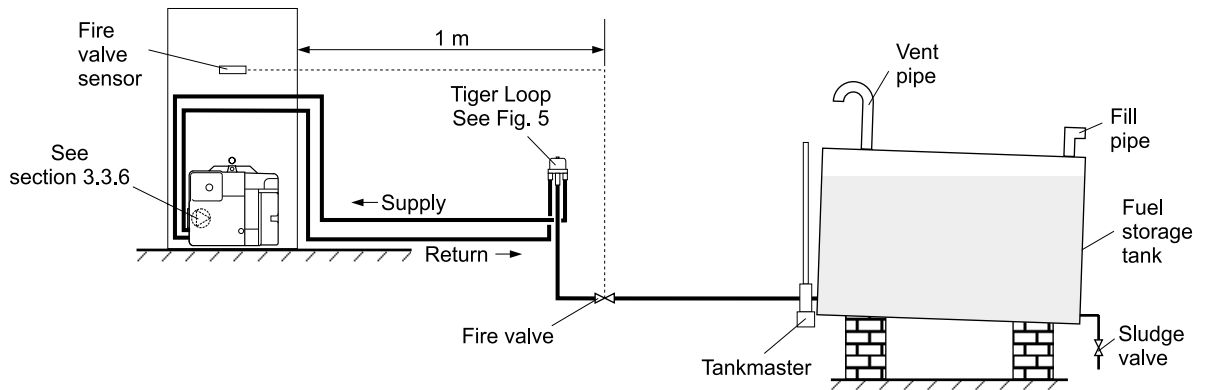

Fig. 4 - Tiger loop system
#### 3.3.5 Tiger Loop system - (See Figs. 4, 5)
- 2 The Tiger Loop is connected close to the boiler as a two pipe system (omitting the non-return valve) as shown in Fig. 4.